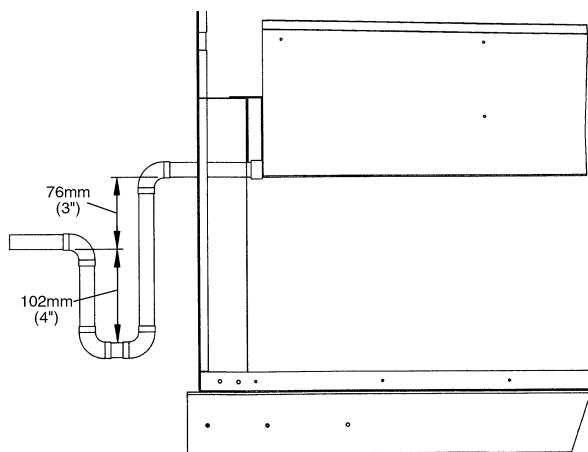

Fig. 14 — Condensate Drain Trap Piping Details (Typical Roof Curb or Slab Mount Shown)
Step 5 — Trap Condensate Drain — See Fig. 5-10 for drain location. Condensate drain is open to atmosphere and must be trapped. Install a trapped drain at the drain location. One 1-in. FPT coupling is provided inside the unit evaporator section for condensate drain connection. A trap at least 102-mm (4-in.) deep must be used. See Fig. 14. Trap must be installed to prevent freeze-up.